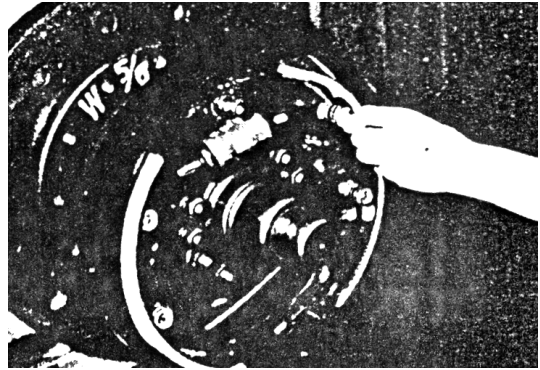

Fig. 8-23
(5) Install the brake cable assembly on the backing plate with an E-retainer.
(6) Install shoes on the backing plate with hold-down springs. However, hold-down spring at the secondary shoe lower part should be fitted only after the spring seat and adjusting lever are properly mounted. Make sure the spring seat settles snugly in the shoe and the adjusting lever holes. (See Fig.8-23)